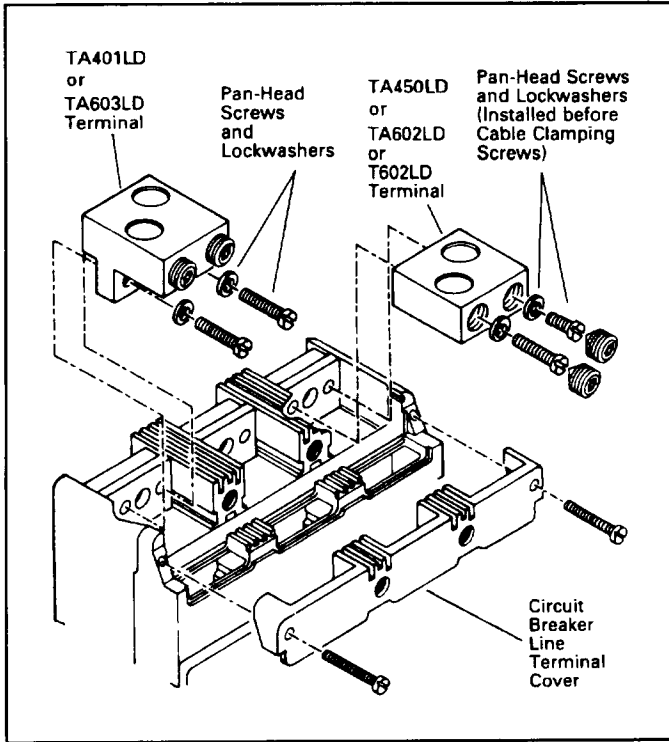

Fig. 2-1 Terminal Installation
- 2-5. If not already installed, mount wire connecting terminals as shown in Fig. 2-1. Secure the terminals to the circuit breaker using two pan-head slotted screws and lockwashers. Torque to 6 to 8 lb-ft (8.14 to 10.85 N.m). With the circuit breaker mounted and before the conductors are installed and conductor clamping screws inserted, the terminal